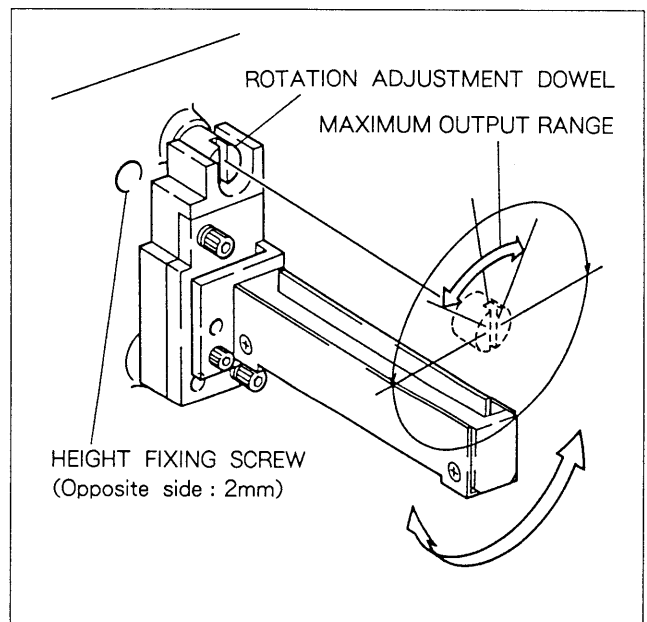

Fig. 9-7-6. Audio REC Head Rotation Adjustment
- (5) Turn the REC head rotation adjustment dowel shown in Fig. 9-7-6 right and left so that check the maximum range of CH-1 (DA. CH-1) output.